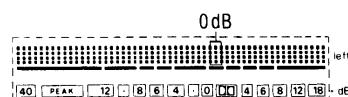

Fig. 19
9. At this time, check that 0dB indicator is dimmed (intermediate brightness between full brightness and light-out (See fig. 19)).